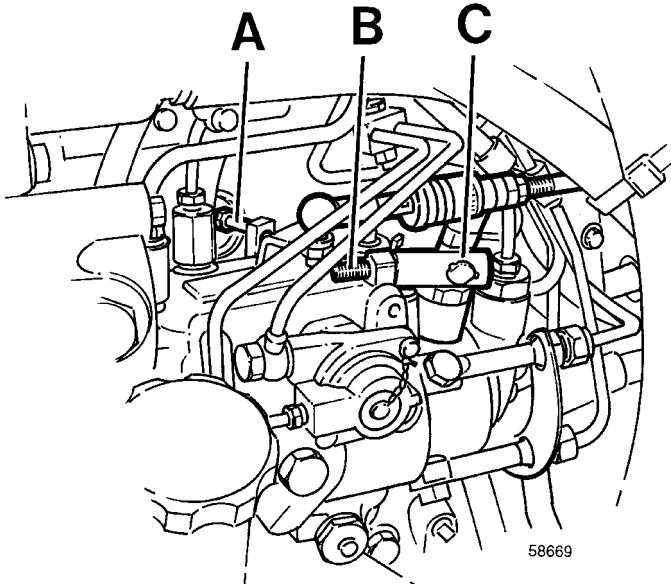
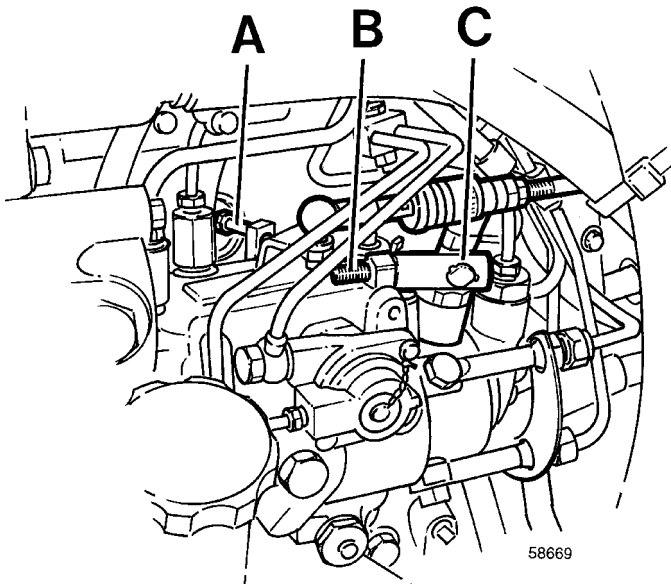

Figure 2
Figure 3
2. Check that the governor lever fits up against adjusting screw A, Fig. TD40 GA Figure 2, TD40 KAE Figure 3. Start the engine and read off the low idling speed on the display unit. Any adjustment should be done with adjusting screw A. Lock the adjusting screw with the nut and again check the speed.
3. Check that the governor lever movement is limited by adjusting screw B, Fig. TD40 GA Figure 2, TD40 KAE Figure 3,